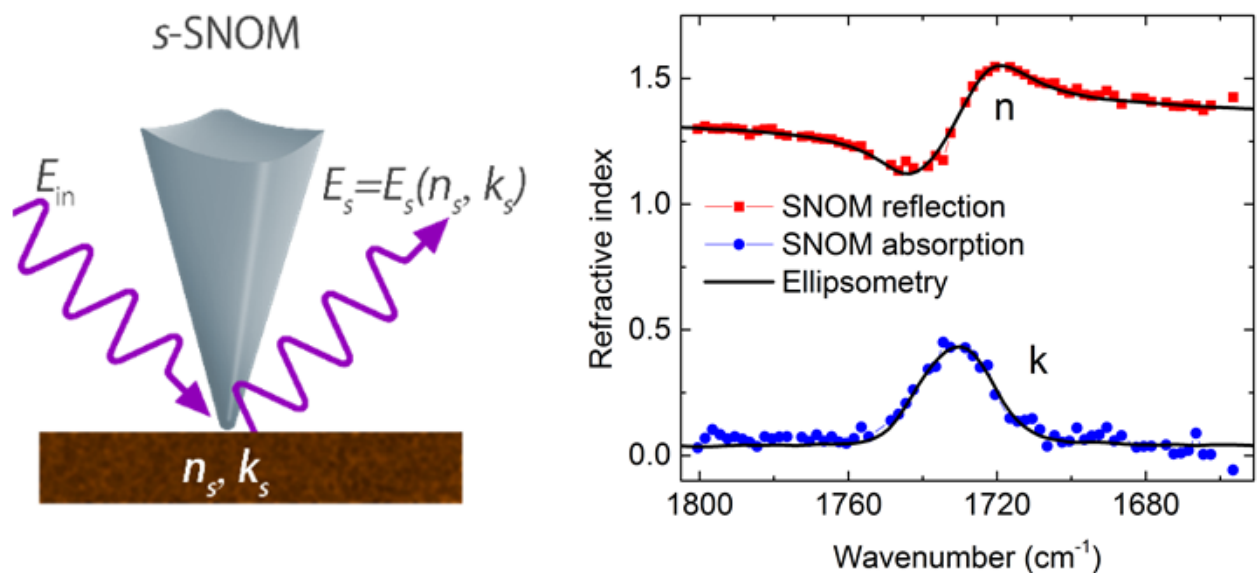

Figure 2-1: s-SNOM signal diagram and resulting optical spectrum
s-SNOM mode uses a continuous-wave (CW) laser source to excite a sample and the scattered light from the sample is detected as shown in Figure 2-1. The scattered light carries the sample dielectric function information. After interfering with a controlled reference beam, the s-SNOM signal can be analyzed to retrieve the sample refractive index n and absorption coefficient k .